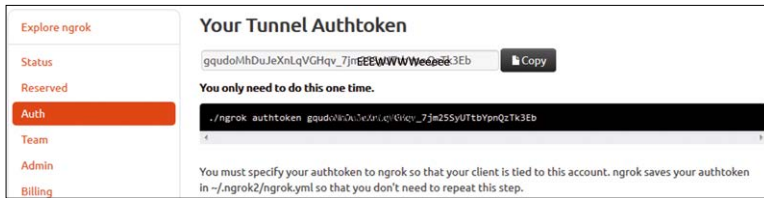

Figure 16.2 Tunnel token
- Click **Auth** link at the left-hand side to get your unique Tunnel token as shown in Figure 16.2. In this example author's tunnel token is (this is modified for security reasons): **gqudoMhDuJeXnLqVGHqv7jyUTtbYpnQzTk3Eb**